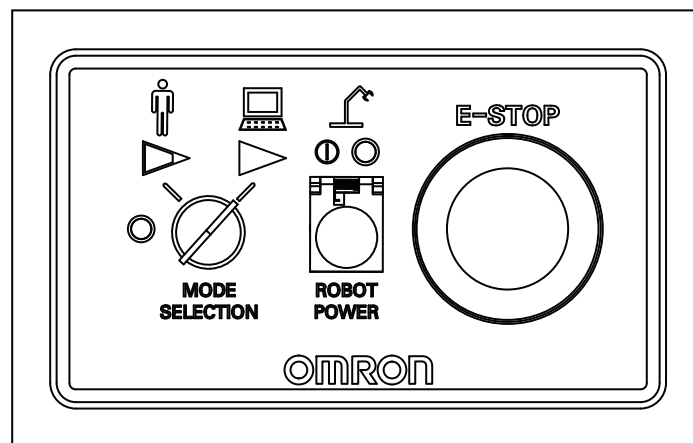

Figure 6-6. ROBOT POWER Button on Front Panel
2. On the Front Panel, set the Auto/Manual switch to Auto (refer to Figure 6-6.), then press and release the blinking Robot Power button to enable high power to the robot.